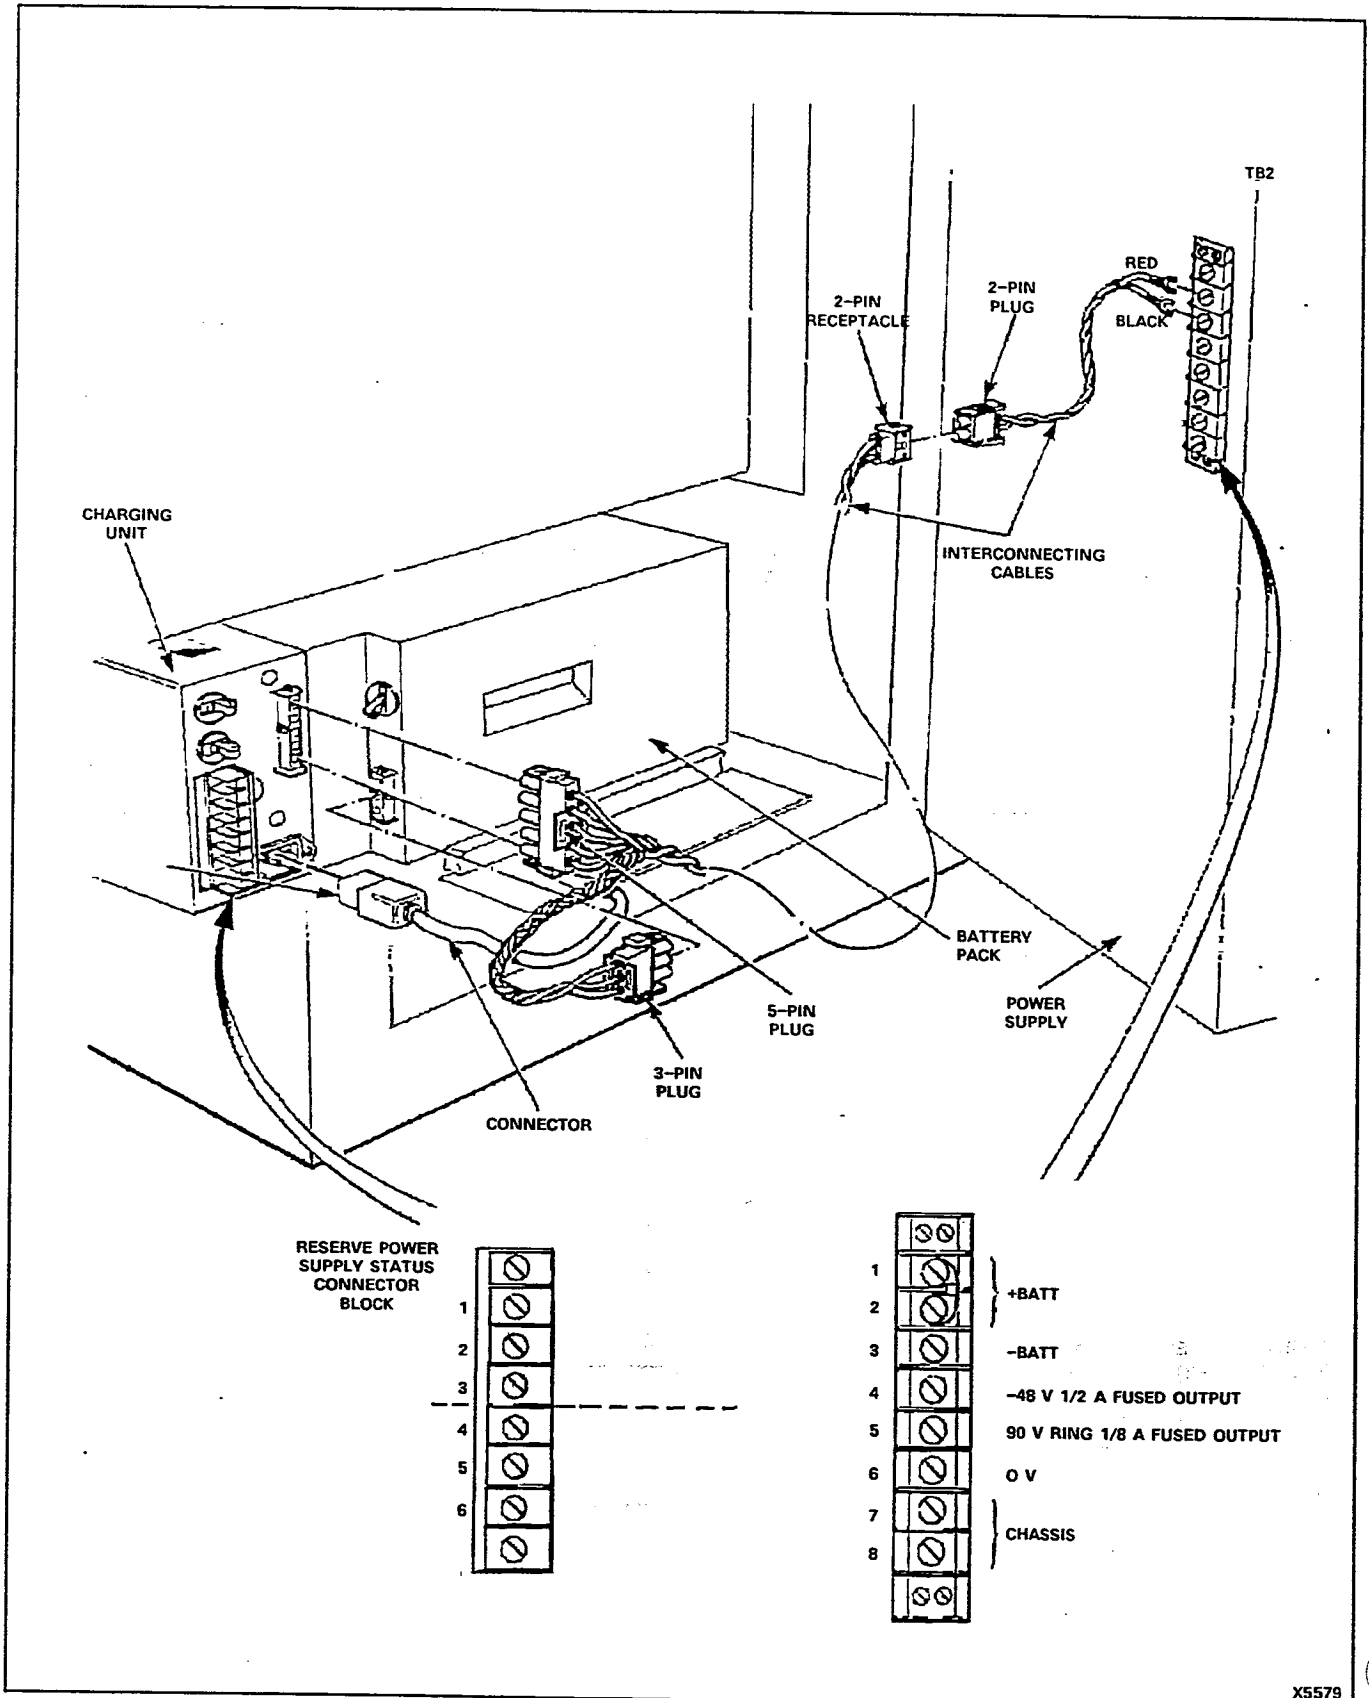

Figure 508-1 Reserve Power Supply
- AT CABINET REAR DOOR (FIGURE 508-1)**